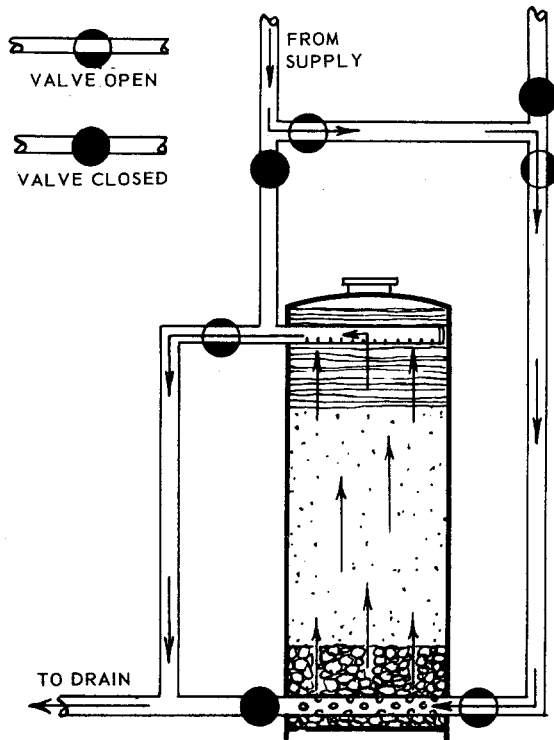

Fig. 1 BACKWASH
1. BACKWASH (Fig. 1) In the backwash operation water is run through the softener in the opposite direction from normal flow. This fluffs up the ion exchange material and removes any foreign material which the softener may have filtered out of the water.